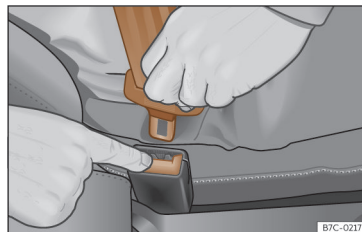

Fig. 20 Release the seat belt's buckle.
- Press the red button on the buckle >>> Fig. 20. The latch plate will unbuckle from the buckle.